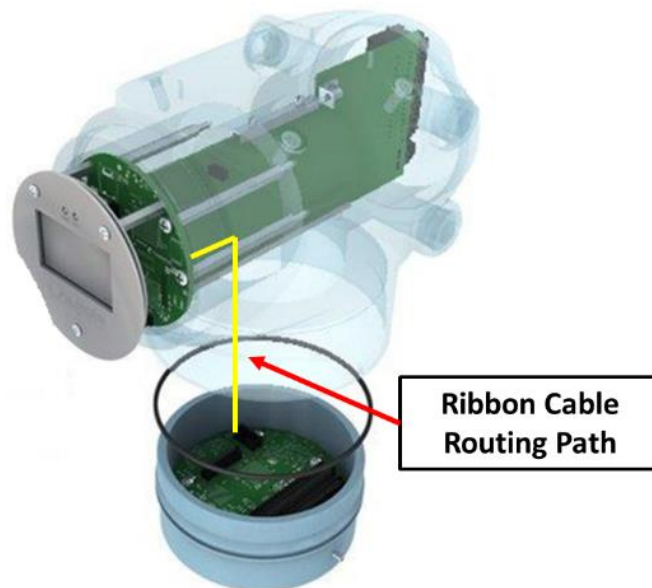

Figure 7.5 MXR-CTC Ribbon Cable Routing Path
5. Connect the ribbon cable to the back of the CTC card. Gently press the CTC assembly onto the IOP connector. Refer to Figure 7.5 below for a view of the routing path.